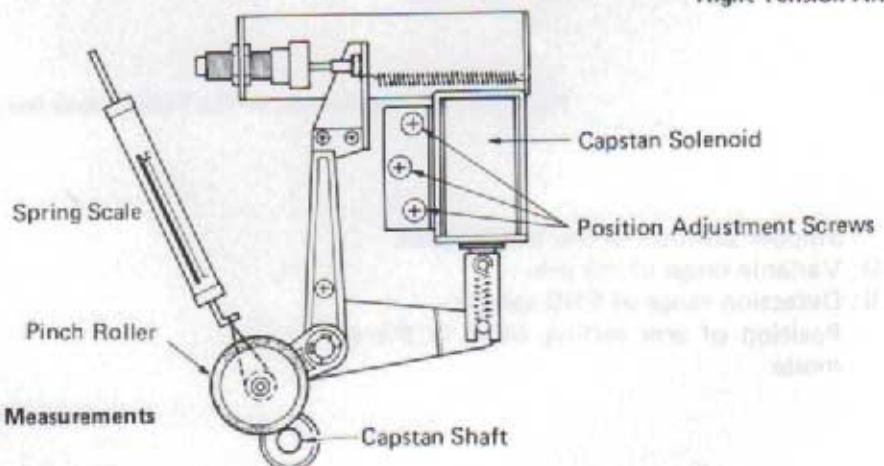

Fig. 9-4-4. Pinch Roller Pressure Measurements
1. Insert something soft or foldable between the tension arm and the opening on the front panel (A) so that the unit will be operative.
2. Attach string to the pinch roller shaft and a spring scale to the string, as shown in Fig. 9-4-4.